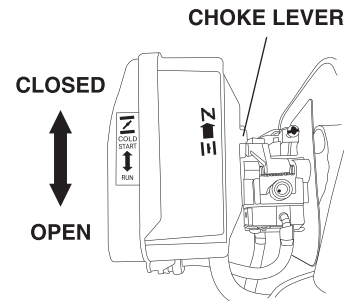

Figure 1
4.3.1 To start a cold engine, move the choke lever (Figure 1) to the CLOSED position. If restarting a warm engine leave the choke lever in the OPEN position.